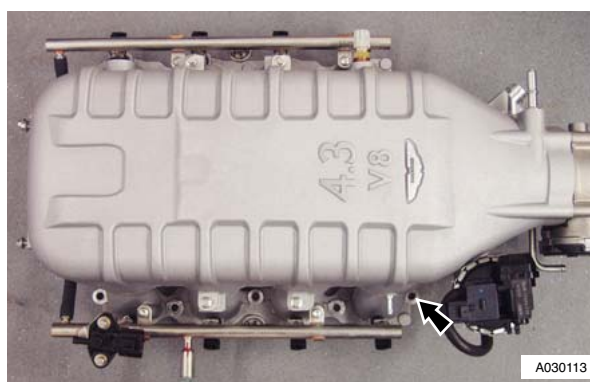

Figure 1
47. Remove Injector to rail clips (x8) (see Figure 1).